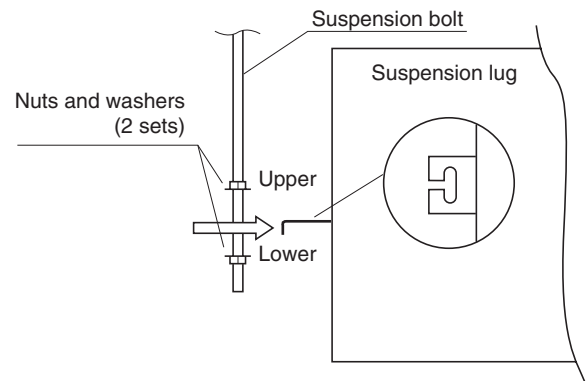

Fig. 1-105
- (3) Thread the 2 hexagonal nuts and washers (field supply) onto the 4 suspension bolts as shown in Figs. 1-105 and 1-106. Use 2 sets of nuts and washers (upper and lower), so that the unit will not fall off the suspension lugs.